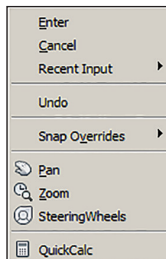

FIGURE 2.9 This context menu appears when you hold down the right mouse button longer than 250 milliseconds.
9. Right-click again to repeat the last command, and then click two points on the canvas. Next, slowly right-click (holding down the right mouse button for longer than 250 milliseconds, to be precise), and you'll see the context menu shown in Figure 2.9. Left-click the word *Enter* in this menu to complete the LINE command.